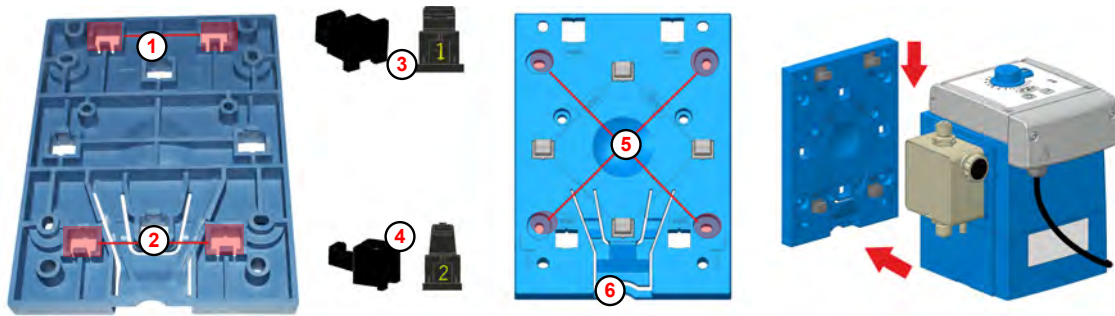

Fig. 15: Preparations for wall mounting
On the underside of the mounting plate, the boreholes for wall mounting (Fig. 15 , ① or ②) are marked with a 2.